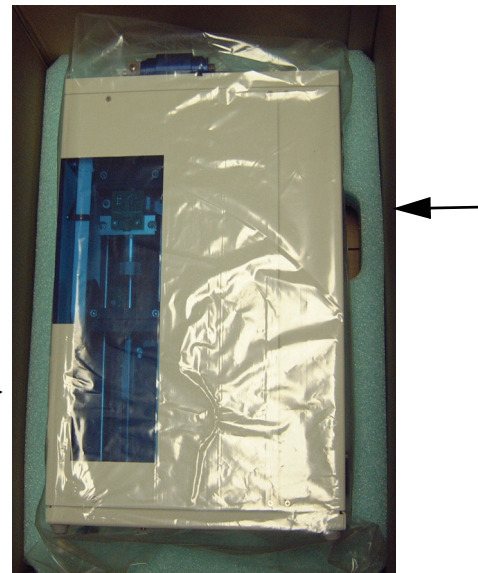

Figure 3-2
12. To unpack the QX Series Pump from the shipping box, put each hand around the outer pump case where the foam is cut away, as shown in the arrows in Figure 3-2. Gently lift the pump out of the box and place it on your work area vertically. The pump weighs approximately 25.4 kg (56 pounds).